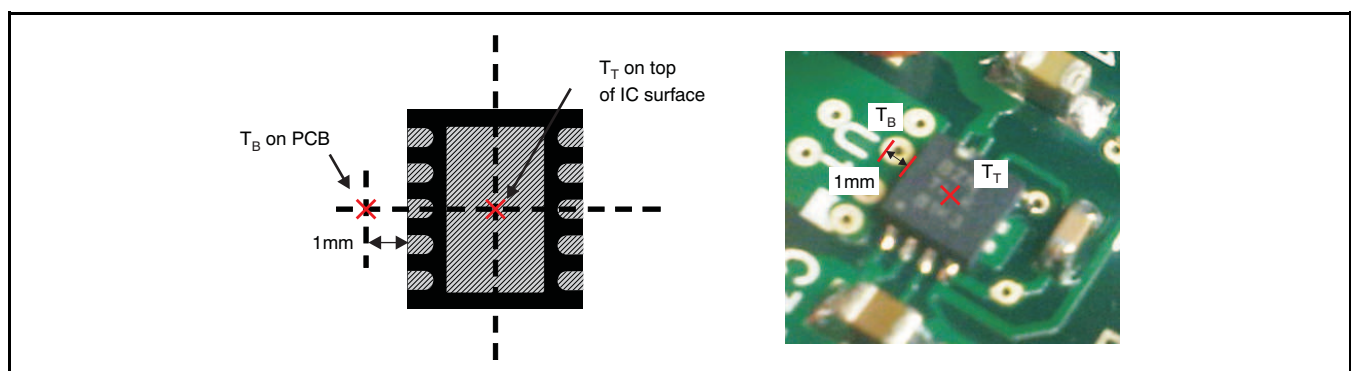

Figure 30. Measuring Points for T_T and T_B
Where P_D is the power dissipation shown by Equation 5, T_T is the temperature at the center-top of the IC package, and T_B is the PCB temperature measured 1mm away from the IC package on the PCB surface (as Figure 30 shows).
- Deleted (previously numbers) Figure 28 through Figure 30 14